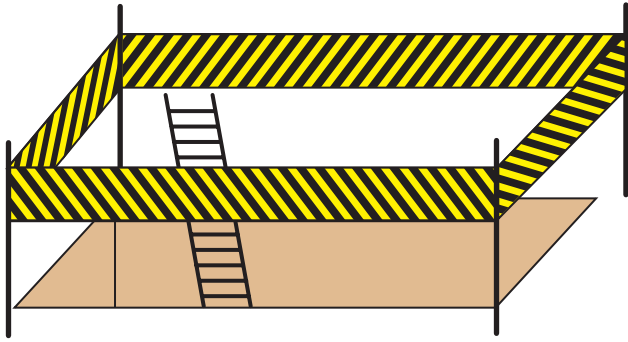

FIGURE 1-2 Place a barricade around a trench and use a ladder to enter and exit the trench.
- 3 Place barricades around trenches (**Fig. 1-2**).